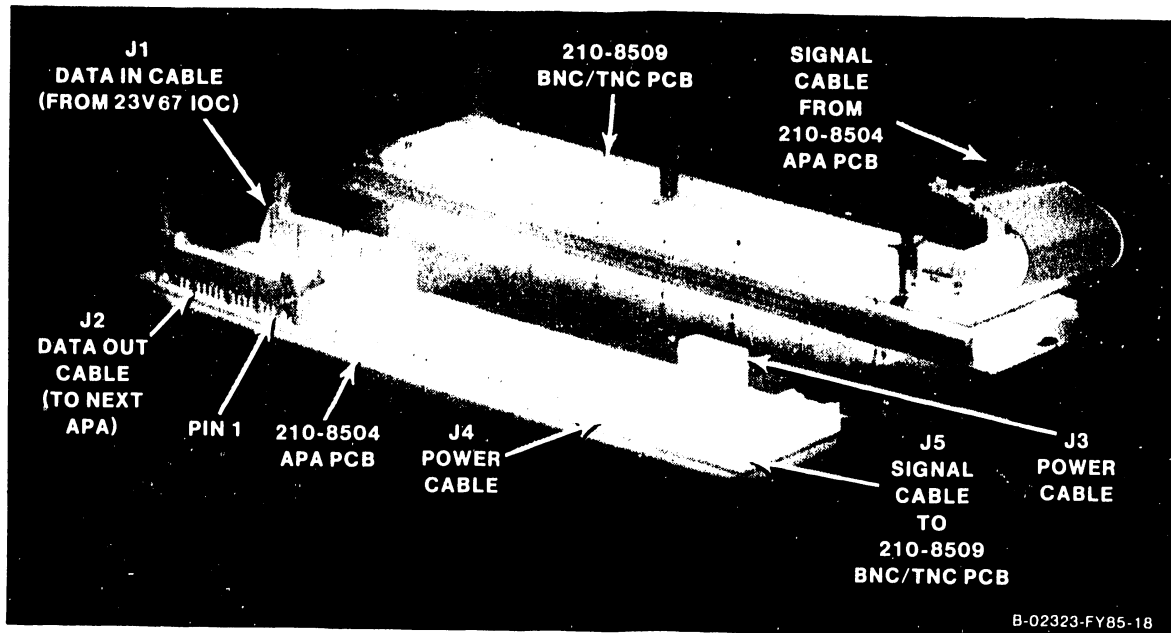
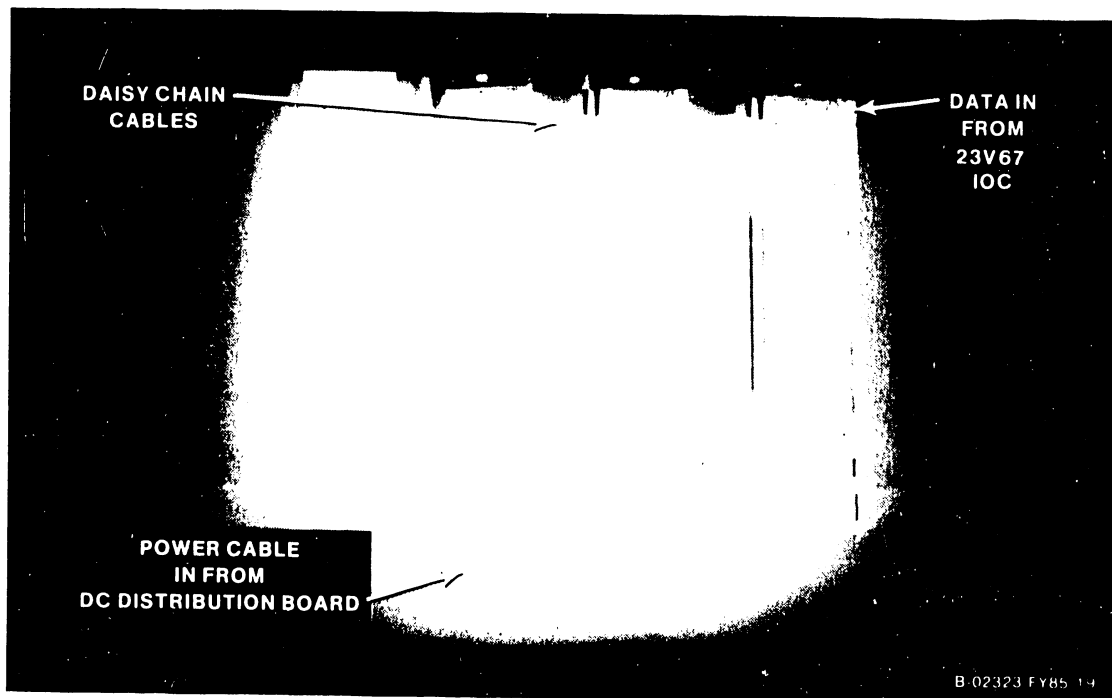

Figure 7-24. 270-0975 APA Assembly
Figure 7-25. Daisy Chained APA Assemblies
2. Figure 7-24 shows one assembly and figure 7-25 shows four assemblies daisy chained. The last APA must be terminated at J2 with a 210-8503 terminator board.